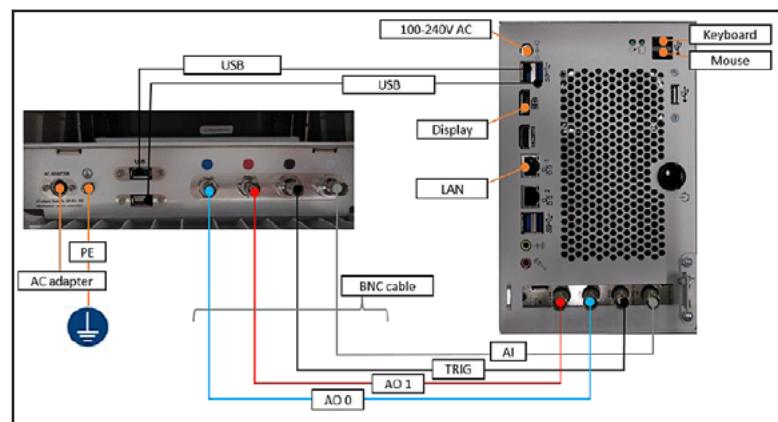

Figure 3-2 Connection Diagram
- 1.11 Connect cables to the specified connection points shown in **Figure 3-2**.